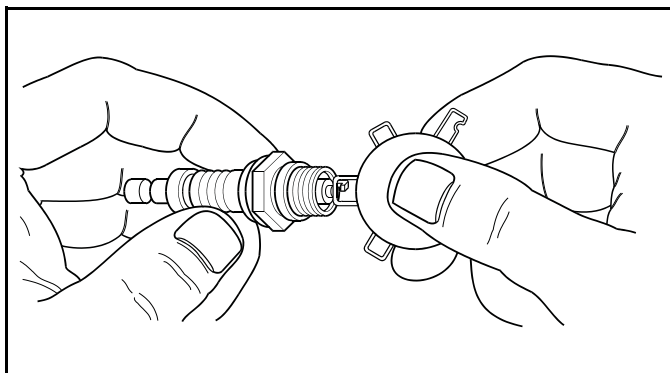

Figure 4-3. Check Spark Plug Gap
5. See Figure 4-3. Set spark plug gap.